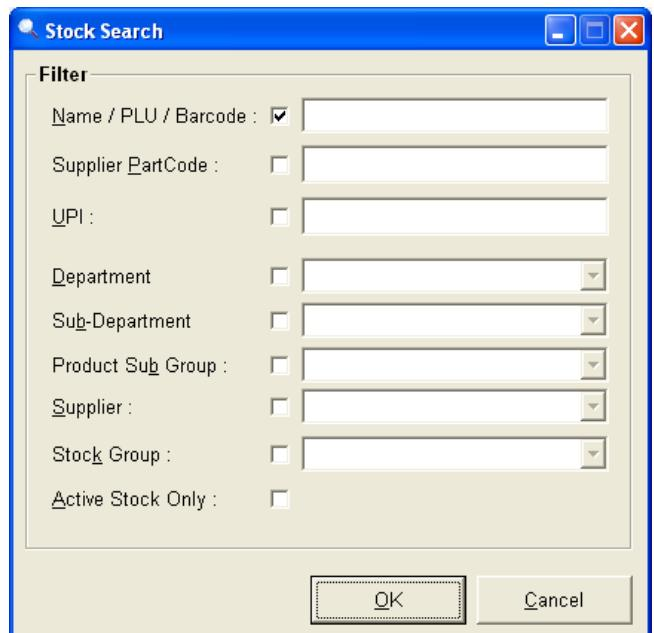

Figure 181
8. Selecting Add Stock will open up the 'Stock Search' window (as shown in Figure 181).